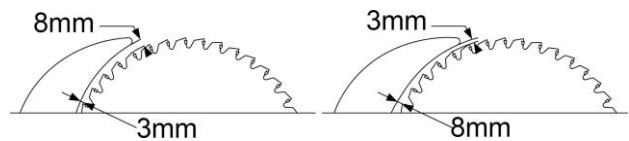

Fig. 27
2. The distance of the riving knife from the gear rim must be between 3 mm and 8 mm measured radially through the center of the saw spindle. As shown in **Fig. 27**.